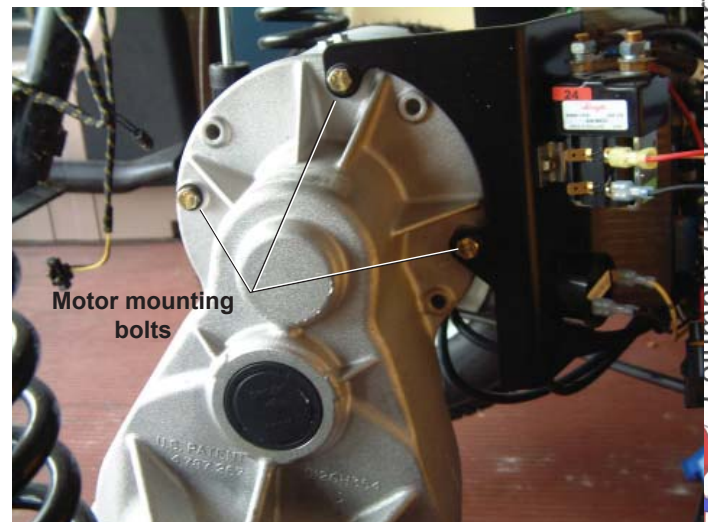

Figure 10-2. Traction Motor Mounting
- See Figure 10-2. Carefully support motor to prevent it from falling, and loosen and remove three bolts, lock washers and f at washers securing motor to rear axle/dif ferential housing. Pull motor away from rear axle housing and lift it clear of the vehicle.